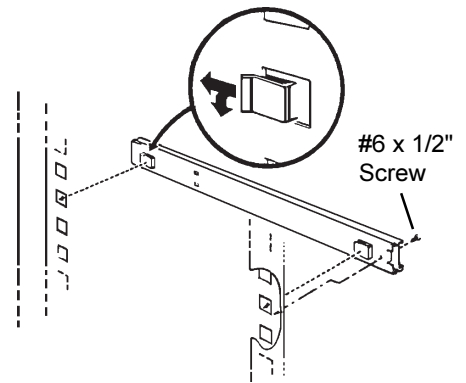

Figure 6. Drawer Slide Installation
8. Take one slide (Figure 6.) and insert the clips (Inset) into the front and rear notches of the drawer support panel. Push the slide to the rear and down. Secure the slide through the end access hole in the slide.